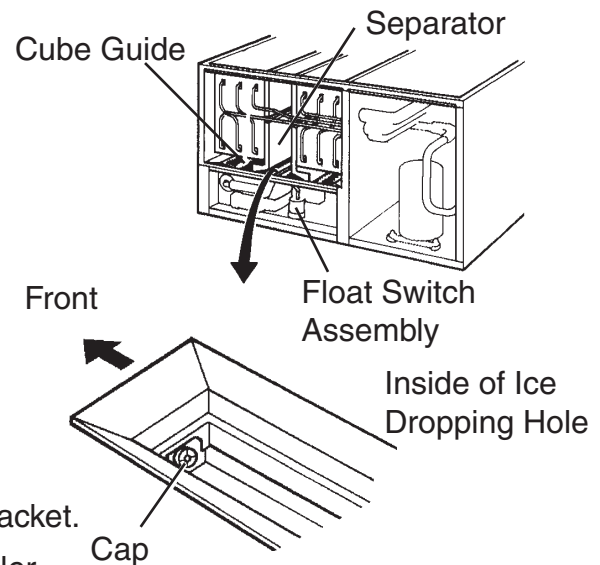

Fig. 2
- 3) Drain the water tank by removing the cap located on the front bottom part of the ice dropping hole. See Fig. 2.